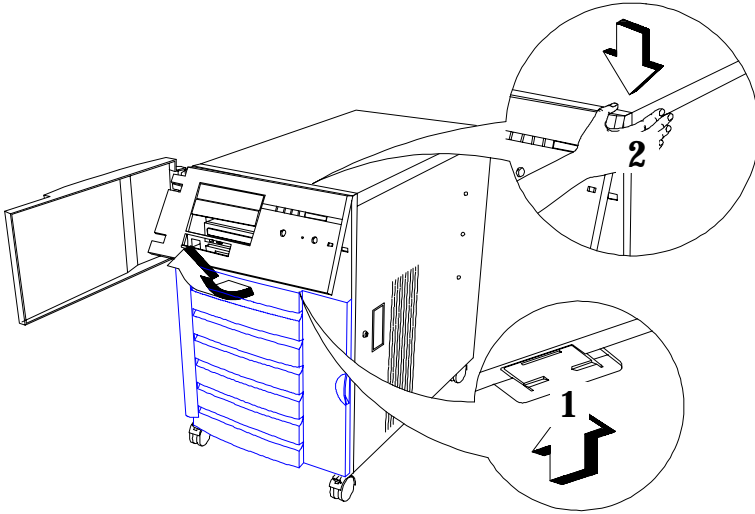

Figure 3-5 Removing the Upper Front Panel Cover
1. Remove the upper front panel cover and the upper front panel door. See Figures 3-5 and 3-6 for illustrations.